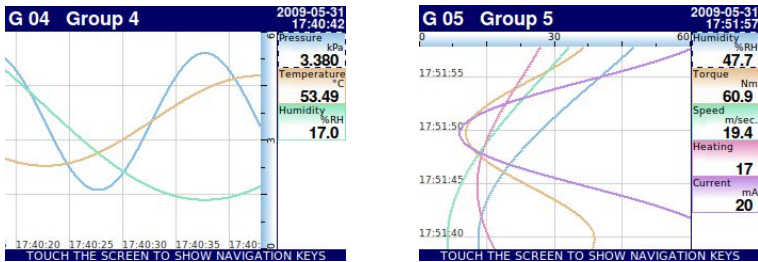
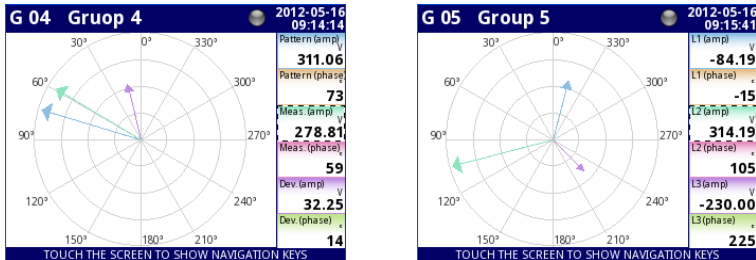

Fig. 6.11. Examples of **Horizontal** (for 3 channels) and **Vertical Charts** (for 5 channels)
Fig. 6.12 Examples of **Phasor Charts** presentation mode
Incorrect device shutdown occurs when the power supply to the device is stopped before pressing the **Safe shutdown** button and the message from **Fig. 6.11** appears. It may occur as a result of e.g.: disconnecting the power supply with an external switch, automatic disconnection of the fuse from the supply circuit of the device or failure of the power supply network. When the device is restarted after incorrect turning off, a message contained in **Fig. 6.12** will be displayed.
During normal operation the **CONTROLLER/DATA RECORDER – wall mounted** displays data in a form selected by user, at any time it is possible to switch a presentation mode and group or show the configuration menu. All the details of the user interface are designed to make the use of the device easy and intuitive. To change a display mode, group or to enter the menu, touch the screen of the **CONTROLLER/DATA RECORDER – wall mounted** and press an appropriate button in the **Navigation bar** (see Fig. 6.11). By touching the screen twice will appear the **Home-Back** menu available only in **SCADALite** display mode (see **Chapter 7.14.4. Groups – SCADALite**).
- as horizontal charts **Fig. 6.11**
- as vertical charts **Fig. 6.11**
- as phasor charts **Fig. 6.12**